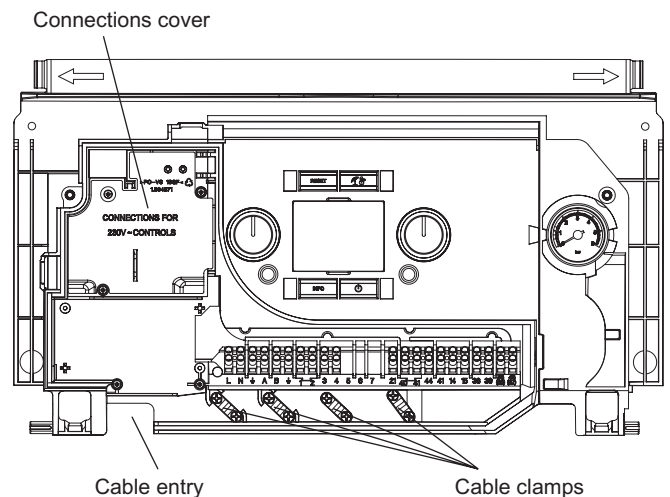

Fig. 4.15
**Note:** Do not remove the 230 V controls connection cover, see Fig. 4.15